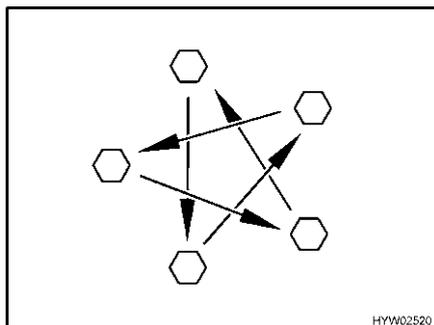

Fig. 242 Tighten the wheel nuts or wheel bolts cross-wise
- Check regularly that the wheel nuts or wheel bolts are firmly seated. Retighten the wheel nuts or wheel bolts of a changed wheel cross-wise (Fig. 242) after 50 km (30 miles). See section 13.5.2 for tightening torque.
- ▷ Tighten the wheel nuts or wheel bolts cross-wise (Fig. 242).